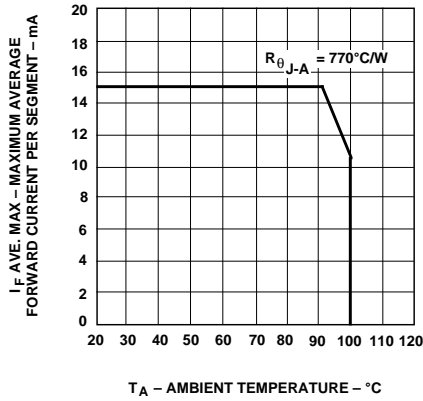

Figure 1. Maximum Allowable Average or DC Current vs. Ambient Temperature.
5. Derate above 91°C at 0.53 mA/°C (see Figure 1).